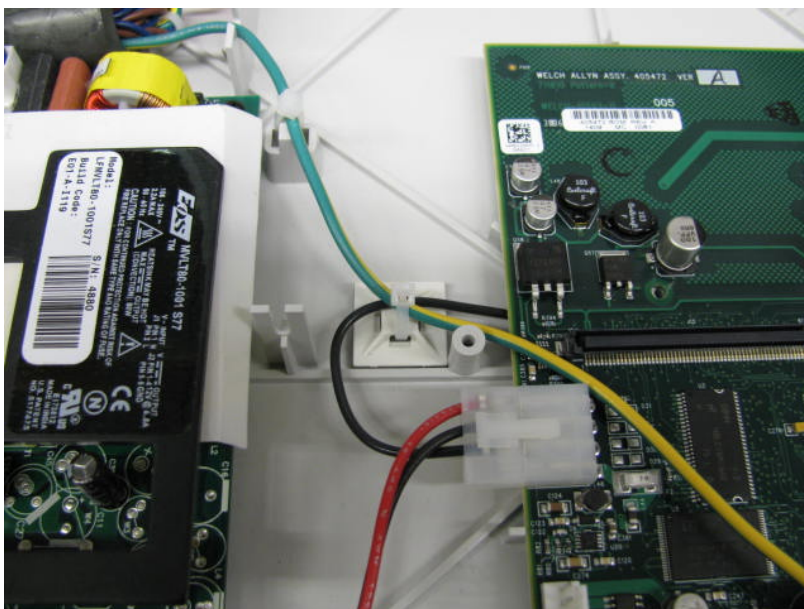

Figure 8
8. Connect wire harness 714834 to the main PCBA 405472 at J20. Secure both 704068 (green/yellow wire) and the ESD shield wire (black) to the Cable Tie Mount (113P463) as shown (Figure 8).